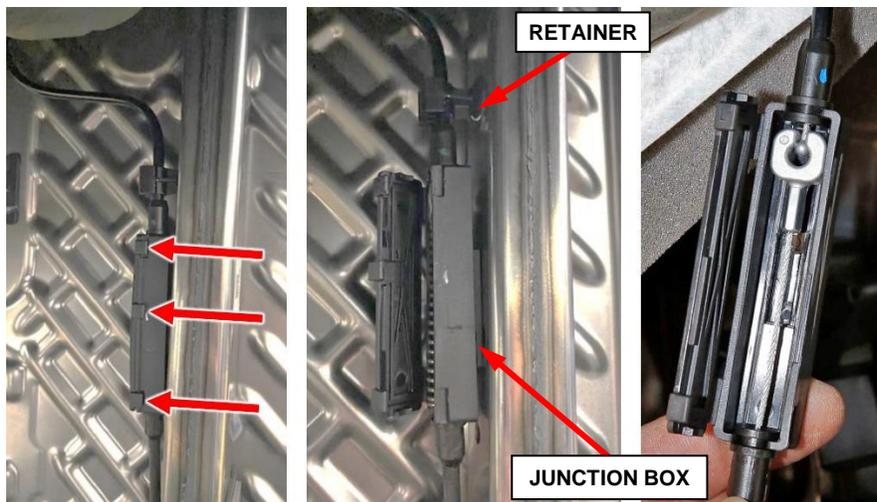

Figure 54 – Headrest Cable Junction Box
18. Open the headrest cable junction box cover by using a small flat head screwdriver to release the three tabs (Figure 54).
19. Remove the headrest cable end fitting from the junction box (Figure 54).
20. If there is a retainer just above the junction box, release the headrest cable from the retainer (Figure 54).
59. Install the headrest cable end fittings into the junction box and ensure the cable ends are connected to each other inside the junction box (Figure 54).
60. Close the headrest cable junction box cover and ensure the cover is secured by the three tabs (Figure 54).
61. Secure the headrest cable to the retainer on the seat back frame sidemember (Figure 54).